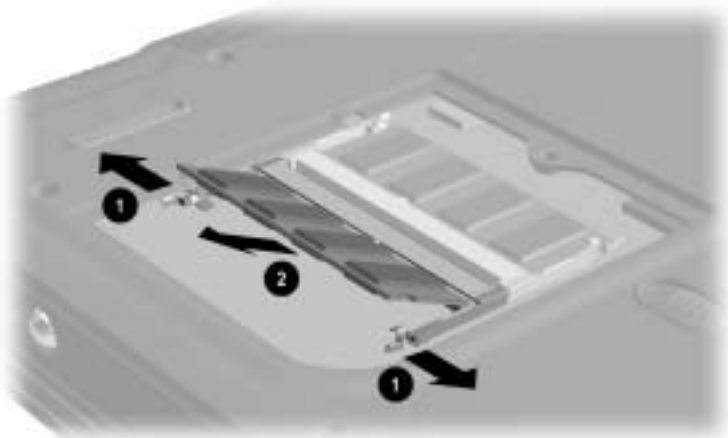

Figure 5-11. Removing a Memory Expansion Board
- 7. Spread the memory expansion slot retaining tabs ❶ to release the memory expansion board. The board tilts up at a 45-degree angle (Figure 5-11).
- 8. Remove the board by pulling it away from the connector at a 45-degree angle ❷.